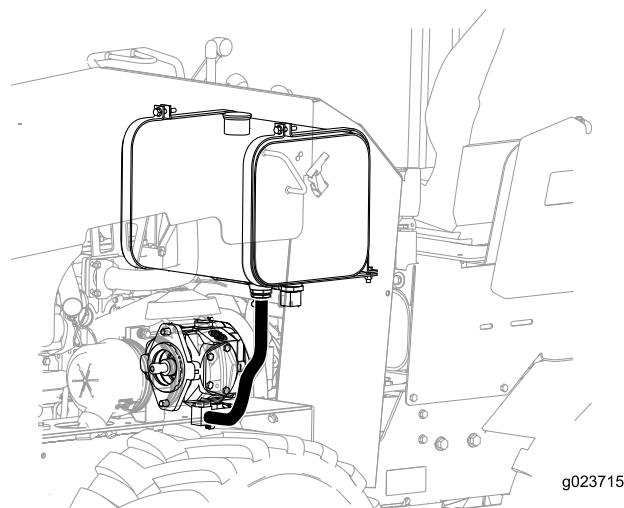

Figure 42
5. Pinch the hose shown in Figure 42 and remove the clamp on the other end attached to the tee adapter.
12. Install the hose shown in Figure 42.